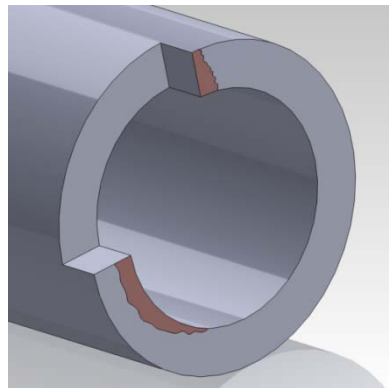

Figure 5: Crack Aspect Ratio
4. Root rolling the connection has a work-hardening effect on the surface of the material. On a molecular scale, the displacement of the crystalline lattice within the steel grain structure causes the crystal structure to change from a repetitive and uniform atomic structure, to one with many dislocations in the pattern. These dislocations in the iron matrix cause the crystal structure to interlock, and become more resistant to further deformation. This added resistance to deformation at the surface of the material helps prevent cracks from starting, and helps arrest microscopic cracks from growing into structural flaws that threaten the integrity of the joint. In lab studies, cracks that have occurred in cold rolled joints have exhibited a significantly lower Crack Aspect Ratio (Crack Length/Crack Depth). A 30% to 50% lower CAR means that cracks in cold root rolled products are more likely to be deep and short (as illustrated by the crack at the top of the pipe shown in Figure 5), rather than long and shallow (as illustrated by the crack at the bottom). A shallow crack is more likely to lead to a sudden and complete structural failure of the joint. A deep crack that partially penetrates the section wall is detectable via pressure drop of circulating drilling fluids, and allows for an early recovery of damaged string prior to complete structural failure of the joint (1).